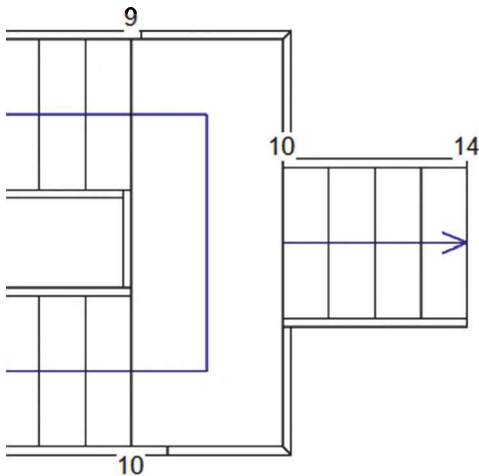

FIGURE 7-3.21 Extra run added to stair
- Draw the stair run (Figure 7-3.21)